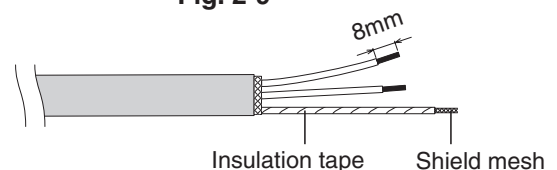

Fig. 2-10
- (3) Remove coat of signal wire. (Fig. 2-10)